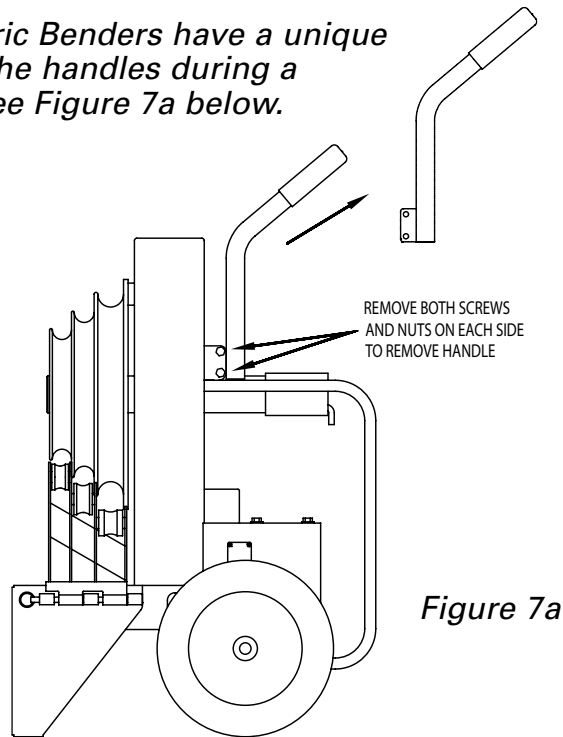

Figure 7a
*The 77 Series Electric Benders have a unique feature to remove the handles during a "Dog-Leg Bend." See Figure 7a below.*